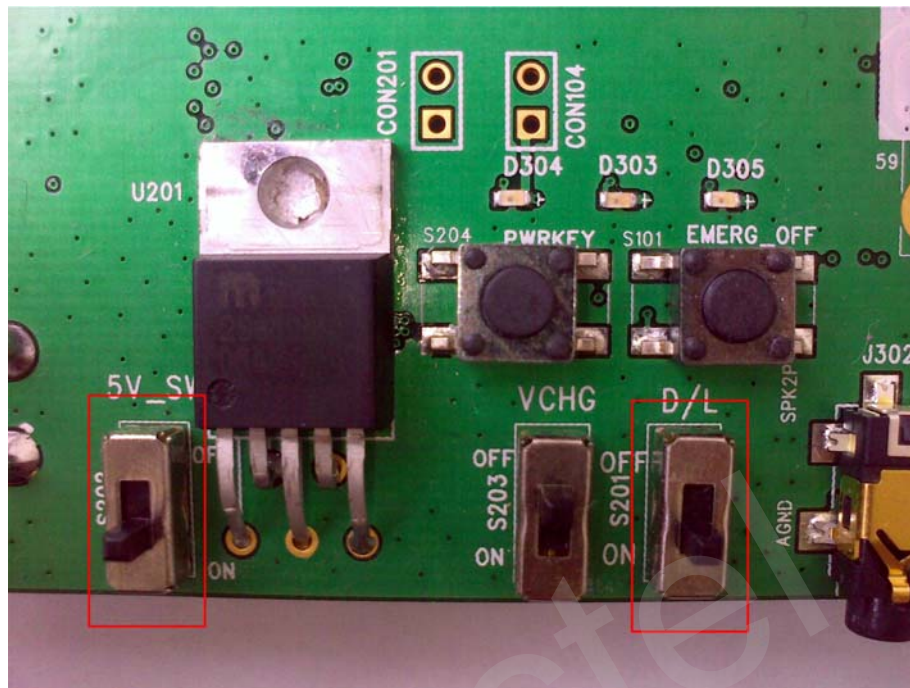

Figure 18: Switches state for firmware downloading
- (1) Start the Firmware Upgrade Tool in the PC.
- (2) Press the **START** button in the Firmware Upgrade Tool.
- (3) Switch the S3 and S1 in the EVB to **ON** state as shown in Figure 18.